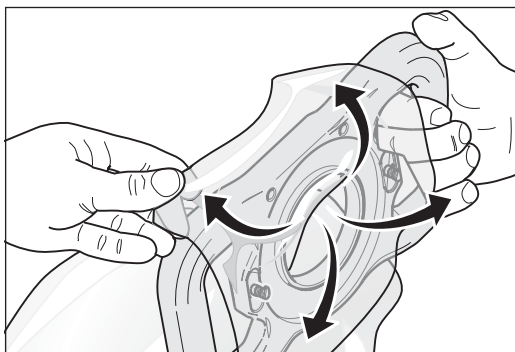

Fig. 25 Pull the waste bag over the fixture.
- 8 Pull the waste bag over the emptying fixture from behind (fig. 25).